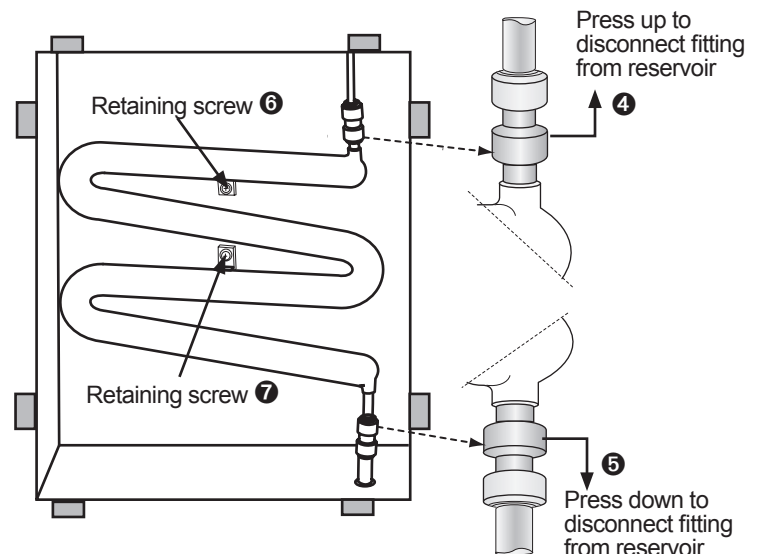

Figure 10-9. —Reservoir fittings and retaining screws.
6. Disconnect the dispenser water line at the reservoir. See Figure 10-9 ④ . Allow water to drain into the container (placed in step 4).
7. Disconnect the water fill line from the reservoir. See Figure 10-9 ⑤ .
8. Remove the retaining screws, then pull the reservoir out of the cabinet recess. See Figure 10-9, ⑥ and ⑦